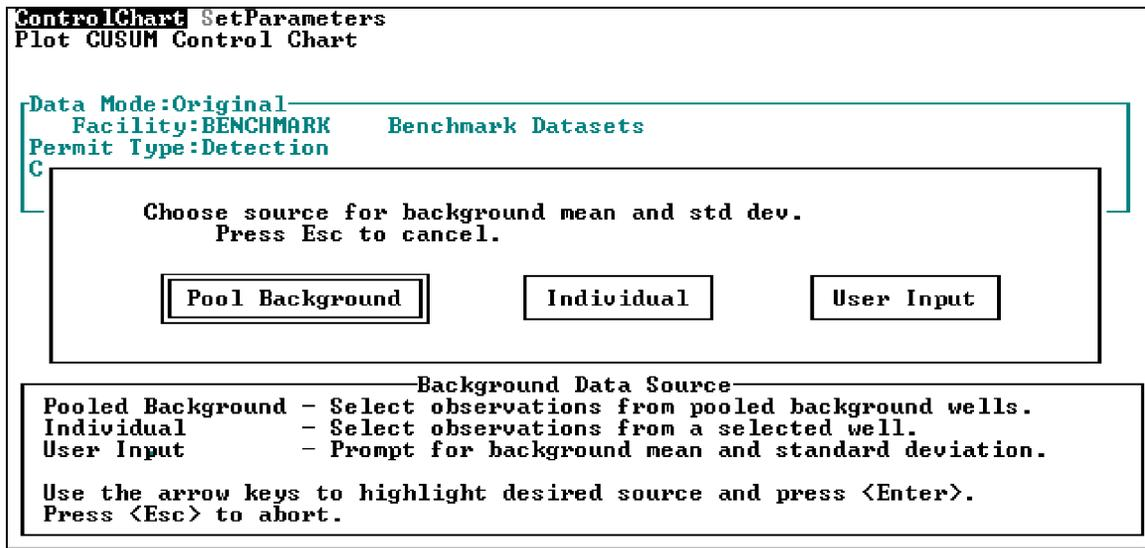

Figure 5-123. The Background Data Source dialog.
6. Use the up and down arrow keys to highlight the desired scale and press **<Enter>**. The Background Data Source dialog appears on your screen as shown in Figure 5-123.